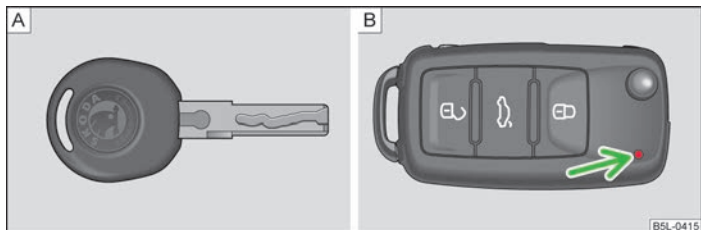
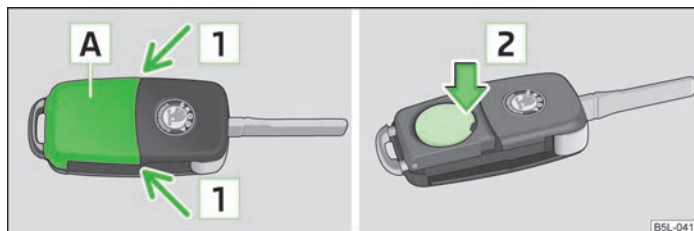

Fig. 8 Key without remote control/key with remote control (remote control key)
Fig. 9 Remote control key: Remove cover/remove battery
Two keys are provided with the vehicle. Depending on the equipment, your vehicle can be equipped with keys without radio remote control » Fig. 8 - A or with radio remote control » Fig. 8 - B.
Each remote control key contains a battery that is located under the cover A » Fig. 9. The battery needs replacing if red indicator light » Fig. 8 on page 26 - B does not go on when you press a button on the remote control key. We recommend that you ask a ŠKODA Service Partner to replace the key battery. However, if you would like to replace the discharged battery yourself proceed as follows.
- Press off the battery cover with your thumb or using a flat screwdriver in the region of arrows 1 » Fig. 9.